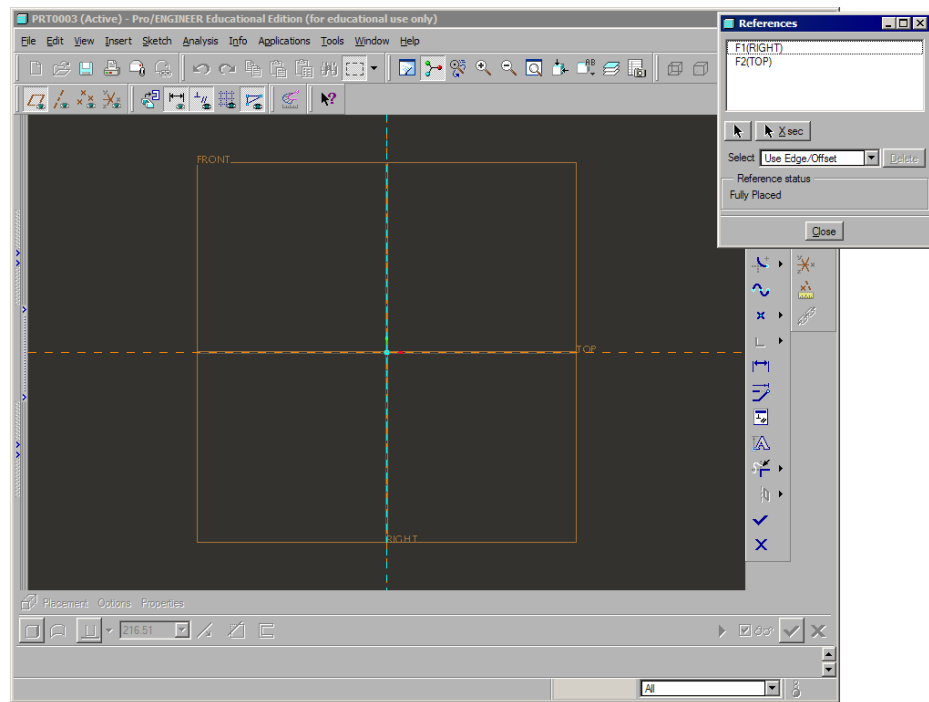

Figure 3-7 The graphics window after entering the sketcher environment and the **References** dialog
5. Close the **Model Tree** by clicking the sash on its right edge. This increases the drawing space in the graphics window and its appearance is similar to that shown in Figure 3-7.